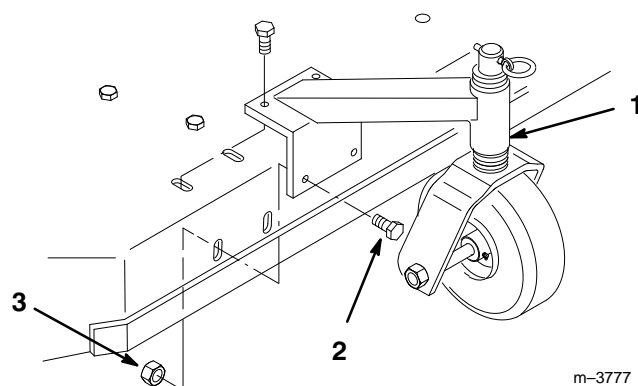

Figure 1
1. Align castors with holes on top and front of mower and insert (8) 3/8-16 x 3/4" (19 mm) bolts through mower. Secure with (8) 3/8-16 flange nuts below mower (Fig. 1).